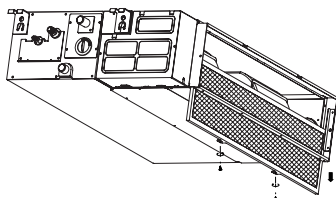
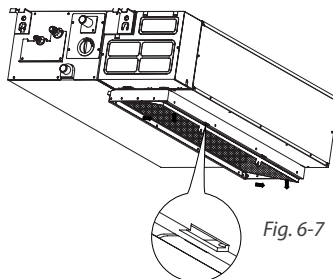

Fig. 6-6
Fig. 6-7
- High pressure duct type and duct/ceiling type (flat) Unscrew the two screws located at the back of the duct as shown in Figure 6-6. Then pull the filter grid down. Push lightly to release the hook from the holes and remove the filter in the direction of the arrows as shown in Figure 6-7.